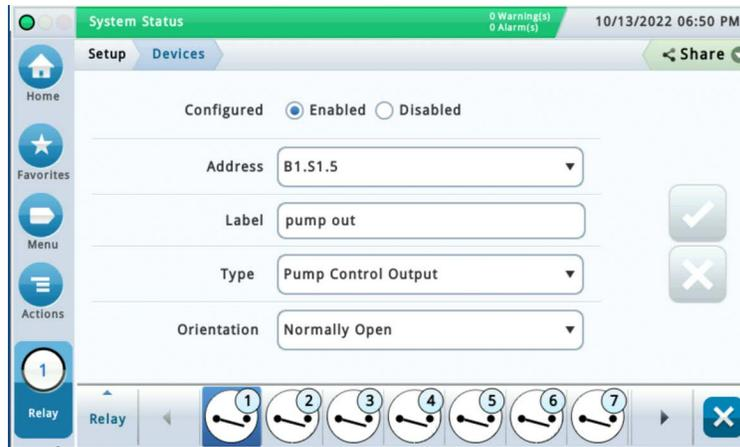

Figure 5. Relay Setup Screen
1. Touch **Menu>Setup>Devices** and touch the Relay button (see Item 4, Figure 1) to open the Pump Control Relay Setup screen (see Figure 5).
7. Touch the **Pump Control** field and select the Relay that was previously configured in **Devices>Relay** for diesel pump control, e.g., R1: pump out (ref. Figure 5).